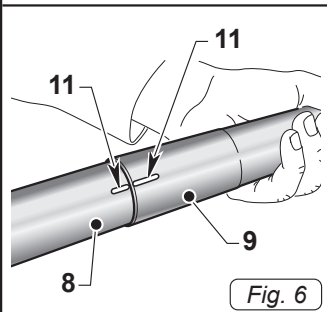

Fig. 6
- Hook the two rigid extensions (8 and 9 Fig. 6), matching the two references (11 Fig. 6)